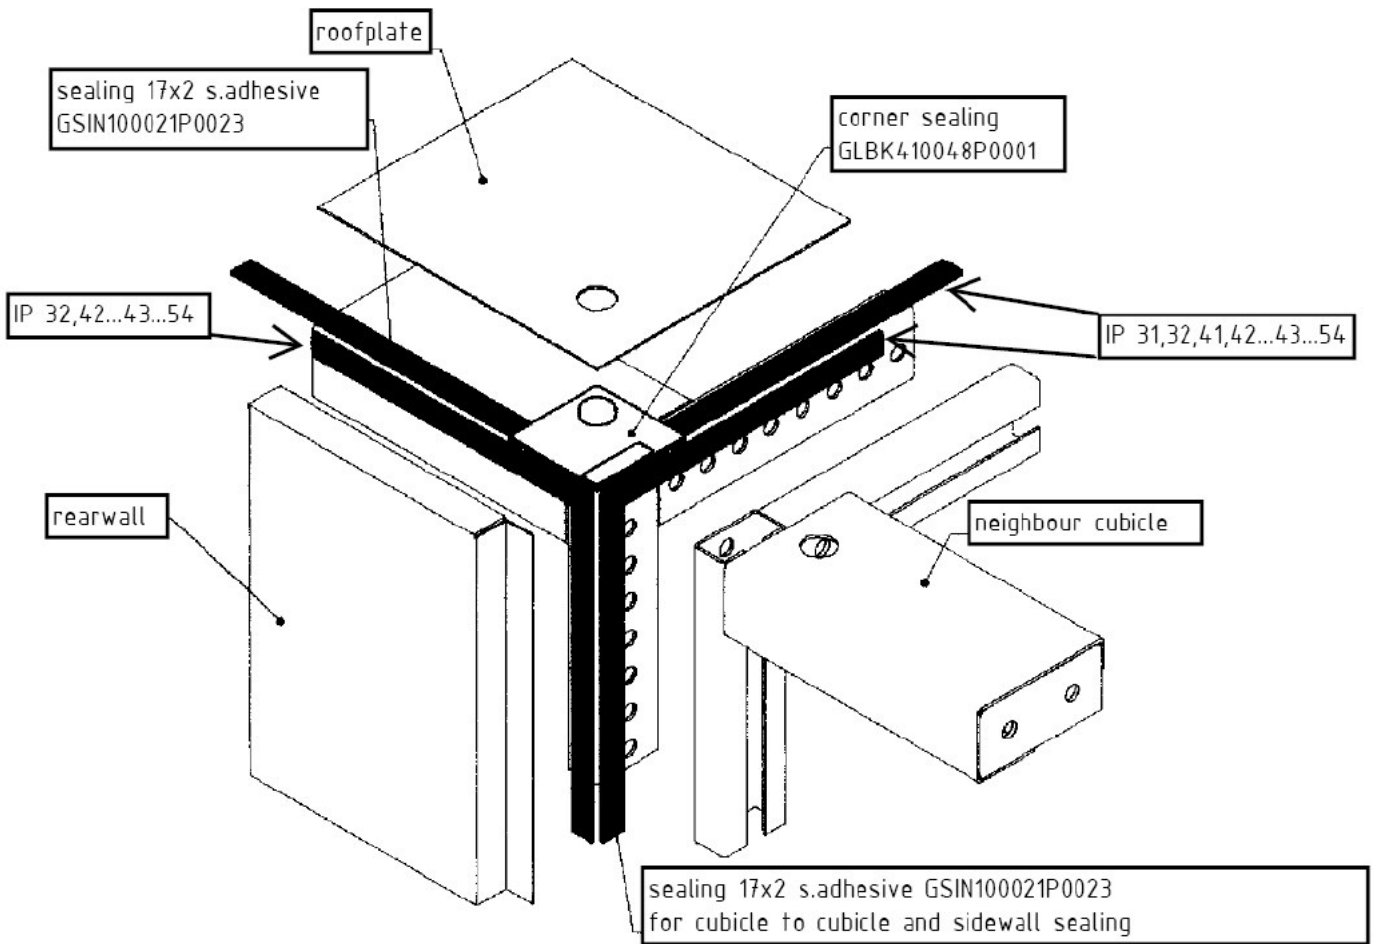

Fig. 23 Gaskets between adjacent compartments and roof
- After drying of the cleaner the self-adhesive sealing tape 15 x 2 mm (GSIN100021P0010) has to be applied to the C-sections at distance of 3 mm from outer edge (see fig. 23).